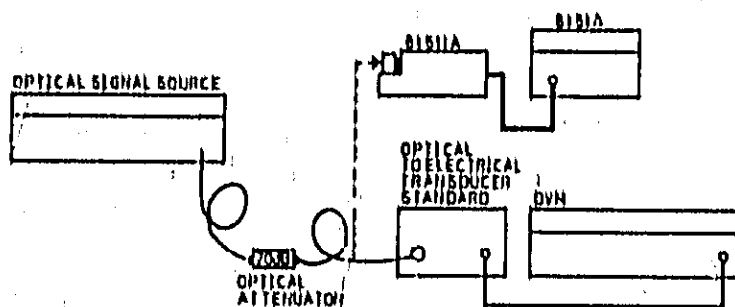

Figure 4-5. Test setup for Average measurements < 5 nW
16. Connect the equipment as shown in Figure 4-5.